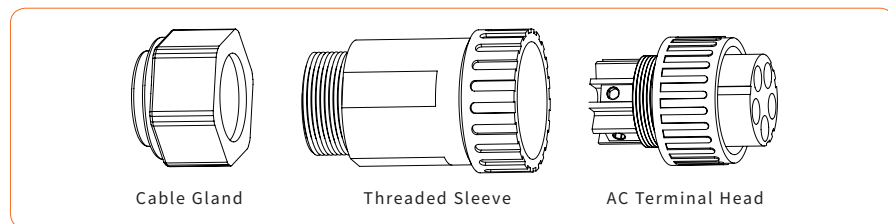

Figure 4-20
① Take the AC connector out of the accessory bag and disassemble it, as shown in Figure 4-20: